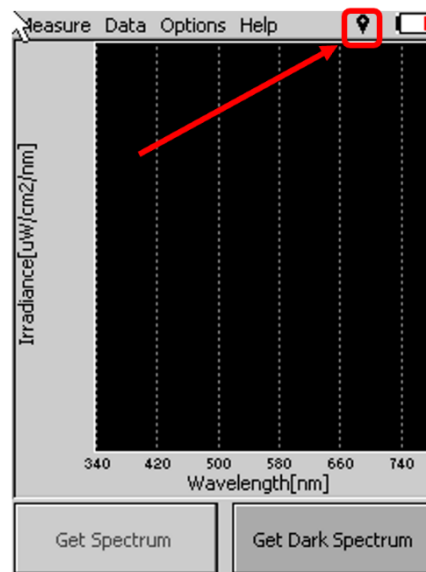

Fig. 42 GPS active.
- Wait until the GPS position is found. The GPS module is ready when the icon of the position flag, in upper menu, stops flashing (Fig. 42).